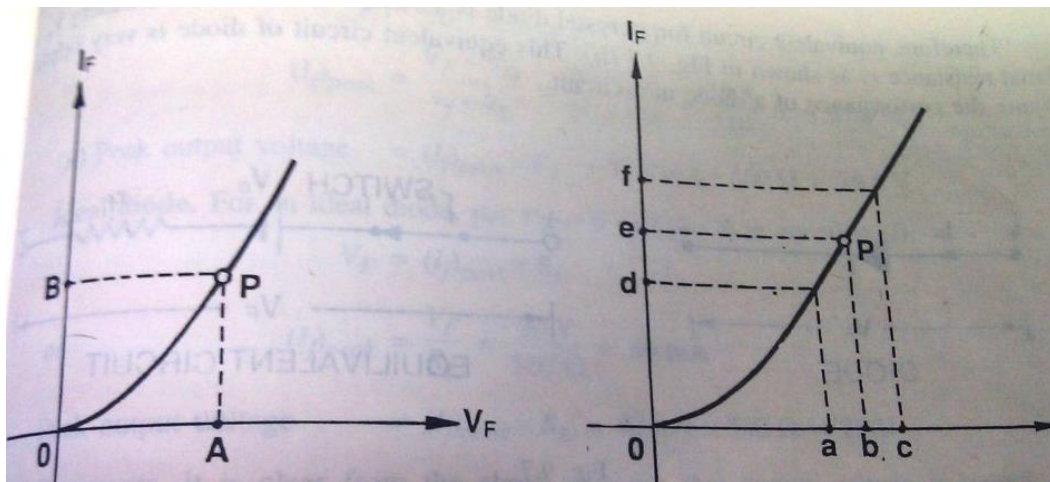

Figure 1.2.3
i) **dc forward resistance:** It is the opposition offered by the diode to the direct current. It is measured by the ratio of dc voltage across the diode to the resulting dc current through it. Refer to the Figure 1.2.3(a) which shows forward characteristic of a diode. When forward voltage is OA, the forward current is OB. So,
Refer to the Figure 1.2.3(b); *ac forward resistance,  $R_f = \frac{ac}{df}$*